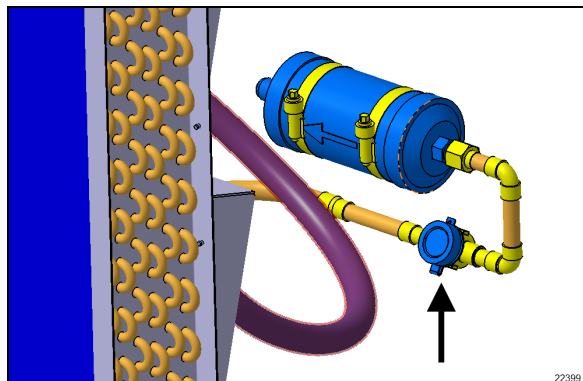

FIGURE 85: MOISTURE INDICATOR SIGHT GLASS
- 2- With the AC on for at least 10 minutes, the moisture indicator sight glass (FIGURE 85) should be clear, not milky, without bubbles in the stream of refrigerant. Bubbles in the moisture indicator sight glass are sign of refrigerant low charge. The filter-dryer nearby should be near constant temperature, less than 5°F differential between inlet and outlet. A partially blocked filter will make some flash gas and give a "milky" sight glass.